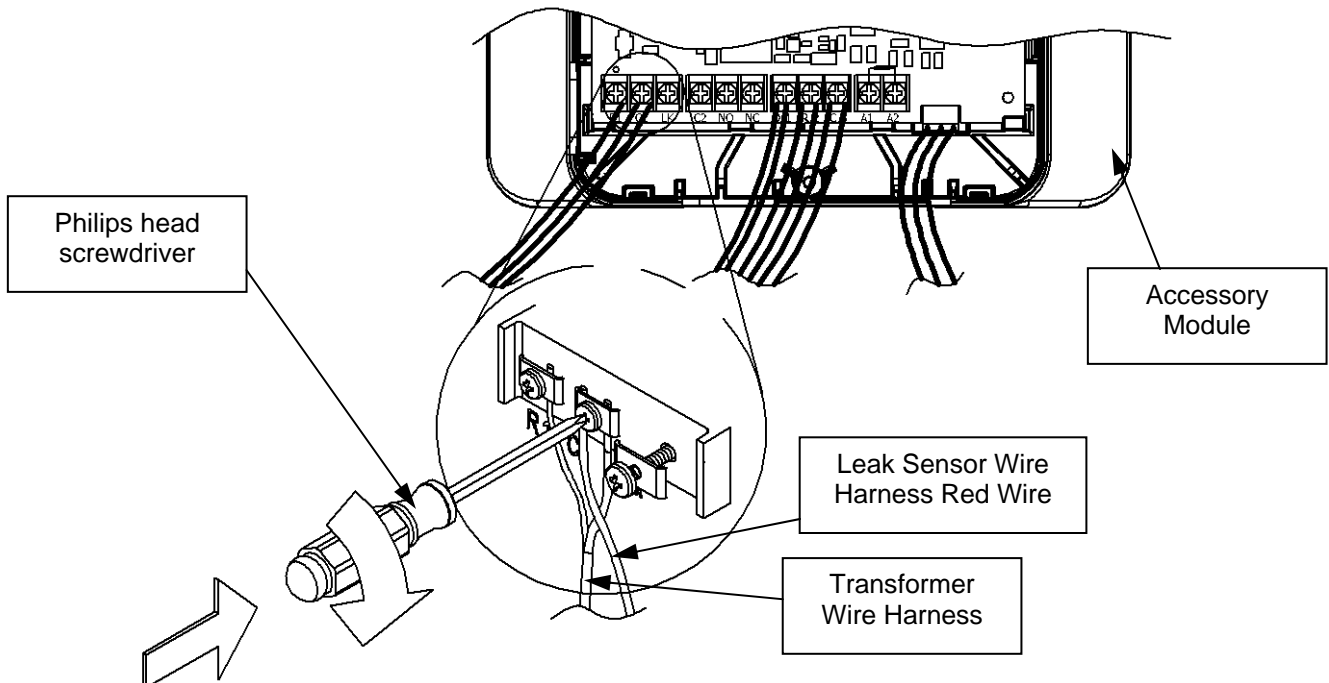

Figure 59
Step 8: Tighten the screw labeled "C1," as shown in Figure 59.